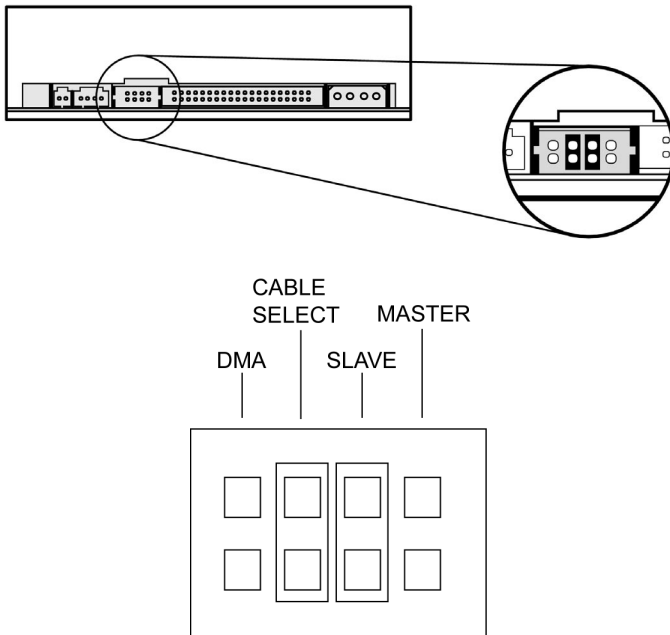

Figure 21: Place jumpers across both the *SLAVE* and *CABLE SELECT* pins to perform the self-test diagnostics
5. Install an extra jumper so that both the CABLE SELECT and SLAVE positions are jumpered, as shown in Figure 21.